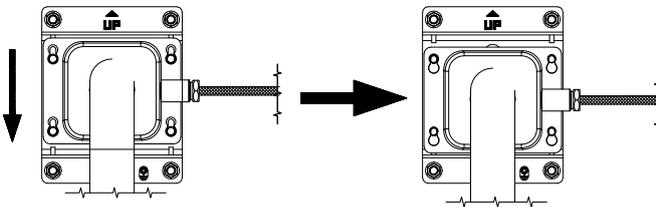

Figure 2-8 Install Bracket to Installation Plate
- c. Hang the speed dome to the bracket by aligning the holes of bracket with the screws and move the speed dome downward to secure the speed dome as shown as Figure 2-8.